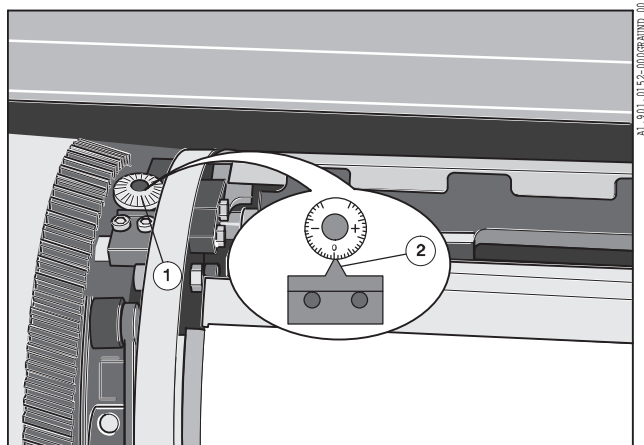

Fig. 20 Adjusting the diagonal register
3. Set the adjusting wheel (Fig. 20/1) at the plate cylinder on O.S. with the operator tool to the desired value; read setting value at the pointer (Fig. 20/2).